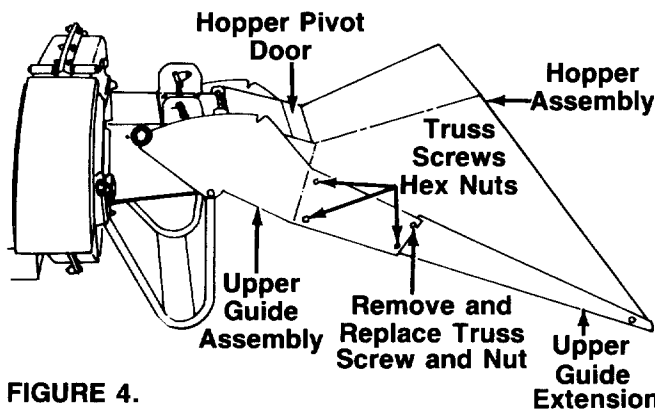

FIGURE 4.
Your chipper-shredder has been shipped with the upper guide extension attached to the hopper assembly. See figure 4. Attach the hopper assembly to the upper guide assembly as follows:
- Remove one truss machine screw and nut from each side of hopper assembly. See figure 4. Push hopper pivot door down inside lower part of hopper. The hopper assembly fits inside upper guide assembly.